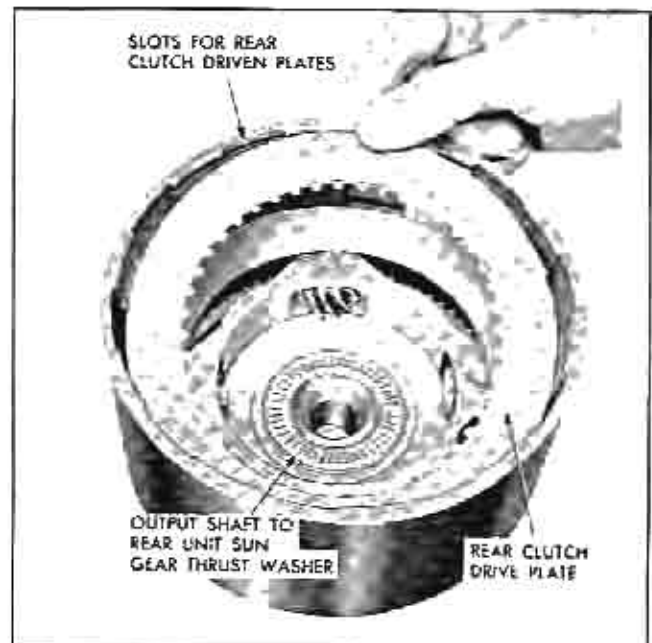
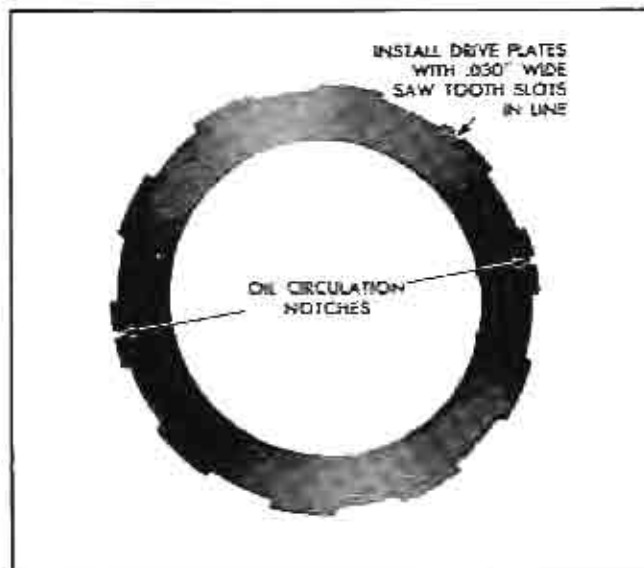

Fig. 88 Installing Rear Unit Clutch Plates
Fig. 89 Notches in Rear Unit Clutch Driven Plate
11. Position needle bearing and retainer in counter-bore of output shaft and retain with petrolatum (Fig. 88).
12. Apply Hydra-Matic oil to faces of seven drive and seven driven plates, and alternately install them in rear unit drum. Start with drive (composition) plate and finish with driven (steel) plate. Assemble driven plates with lugs registering in rear unit drum slots (Fig. 88) and so .03" wide saw slots in driven plate lugs are all in line (Fig. 89). **NOTE:** Indexing the saw slots nests the plates together so that the